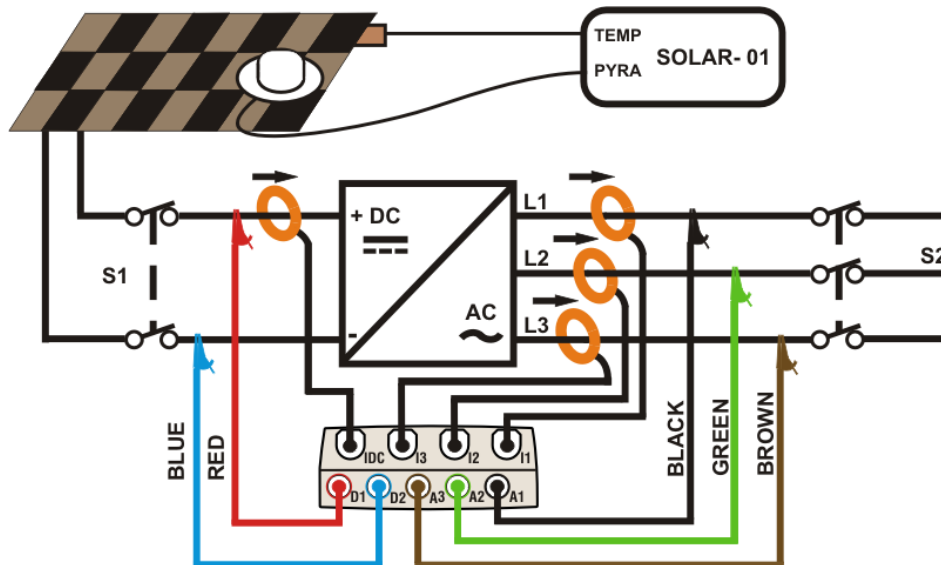

Fig. 161: Connecting the instrument to a PV-3 system with SOLAR-01
2. Connect inputs **D1** and **D2** to the positive and negative string output pole respectively. Connect inputs **A1**, **A2** and **A3** to the phase conductors, respecting the colors as shown in Fig. 161
3. Connect the DC current clamp to the positive string output conductor **by respecting the direction of the arrow** on the clamp itself as indicated in Fig. 161. **Check the status of internal batteries of the DC clamp after the connection to the installation**
4. Connect the AC clamps to the Phase L1, L2, L3 conductors **by respecting the direction of the arrow** on the clamps as indicated in Fig. 161. Connect the output of the clamps to the **I1**, **I2**, **I3** input of the instrument respectively